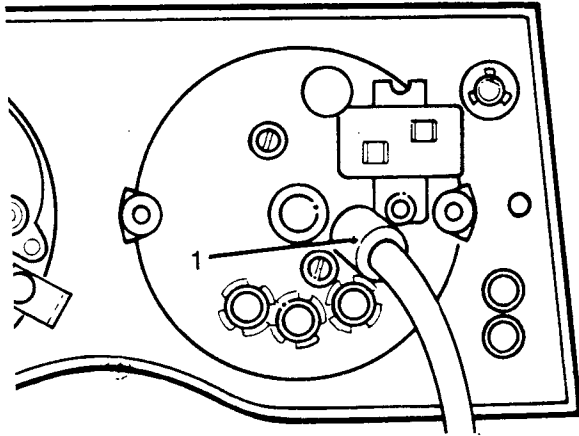

Fig H1.80
- (2) Refer to Fig H1.80. Depress the spring clip (1) and withdraw the cable assembly from the speedometer.